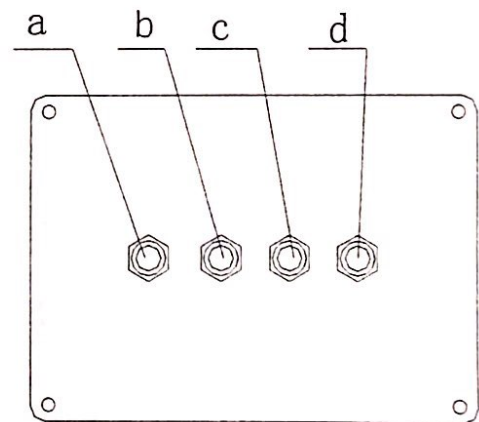

Figure 18
(F) Flow Control Board (Figure 18)
6. Adjust the running speed of machine and make it meet printing requirement. This includes the adjustment on the dwell time of pad at each stroke end and the regulator that controls the speed of each cylinder (See Figure 18).